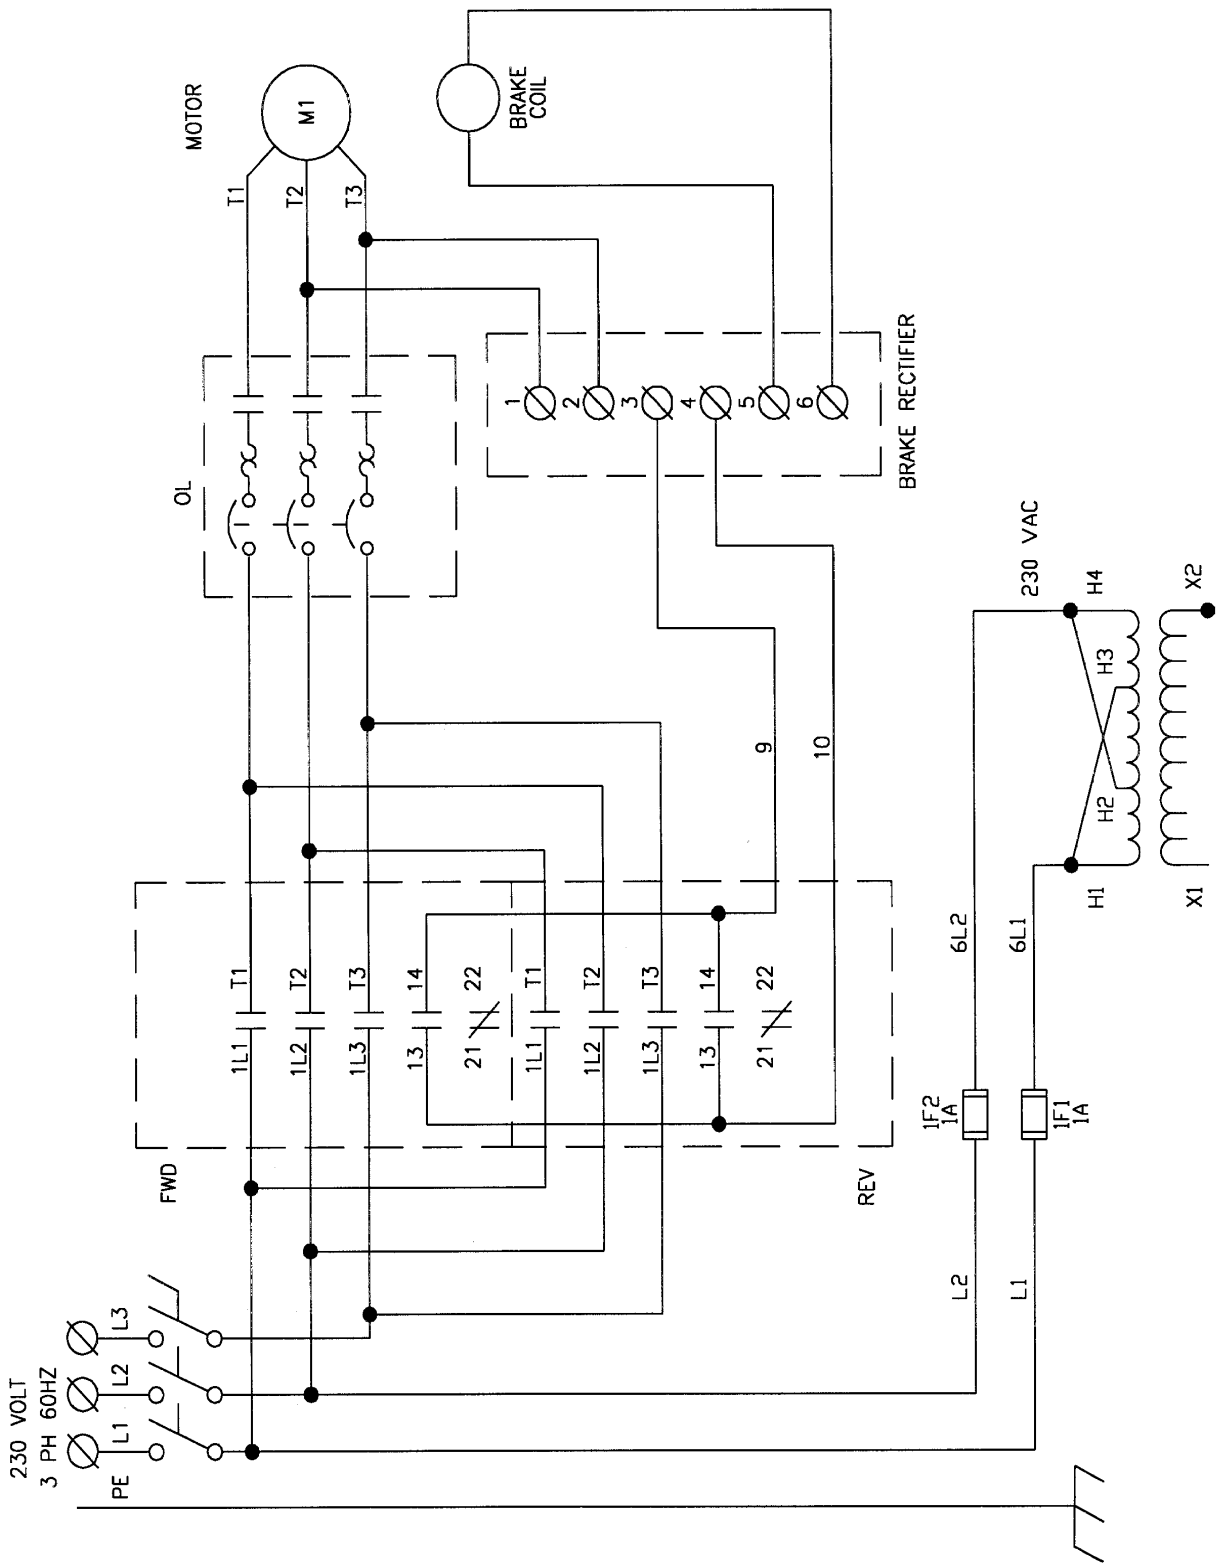

FIGURE 5
3. **CAUTION:** Electricians checking direction of rotation should be cautioned not to operate the machine until it has been thoroughly checked, cleaned, leveled, and lubricated. For wiring diagram see Figures 5, 6 and 7.